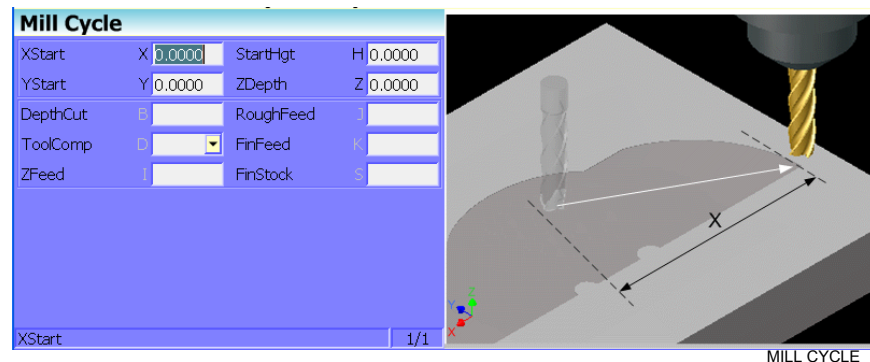

Figure 4-27, Mill Cycle Graphic Menu
1. In Edit mode, press **Milling (F5)** and **Mill Cycle (F1)** to display the Mill Cycle screen, **Figure 4-27**.